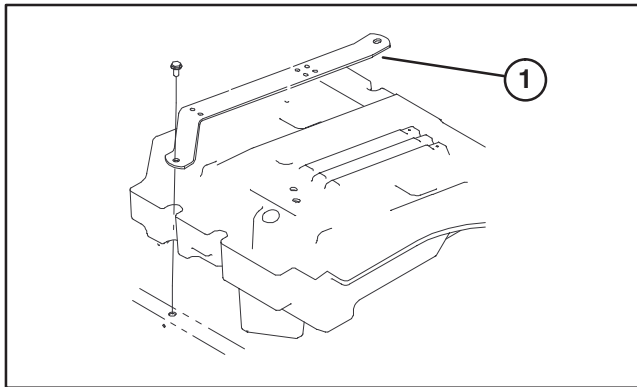

Figure 4
INSTALL SEAT (Fig. 4 – 7)
1. Remove capscrews securing seat mounting straps to traction unit frame (Fig. 4).